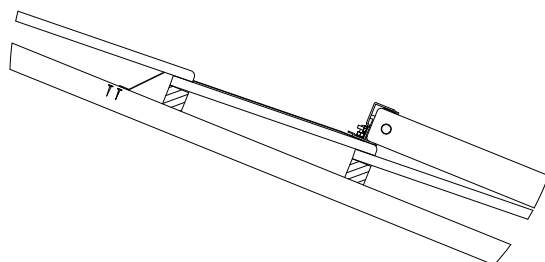

Figure 22 - Replace Tiles
- Replace the tiles and ensure the collector is secure as shown in **Figure 22**.